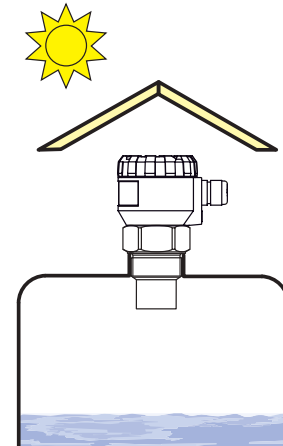

Fig. 13: Solar radiation shielding cover
Rotating mixer blades can cause that the surface is stirred, which results in false reflections of the ultrasonic signal from the surface level and unreliable operation of the level meter (Fig. 13).(obr. 11). For a rippled or swirling level, you can use the directional horn to eliminate scattering of the ultrasonic signal.
- If the installation in places with direct solar radiation is inevitable, it is necessary to mount a shielding cover above the level meter (Fig. 13).